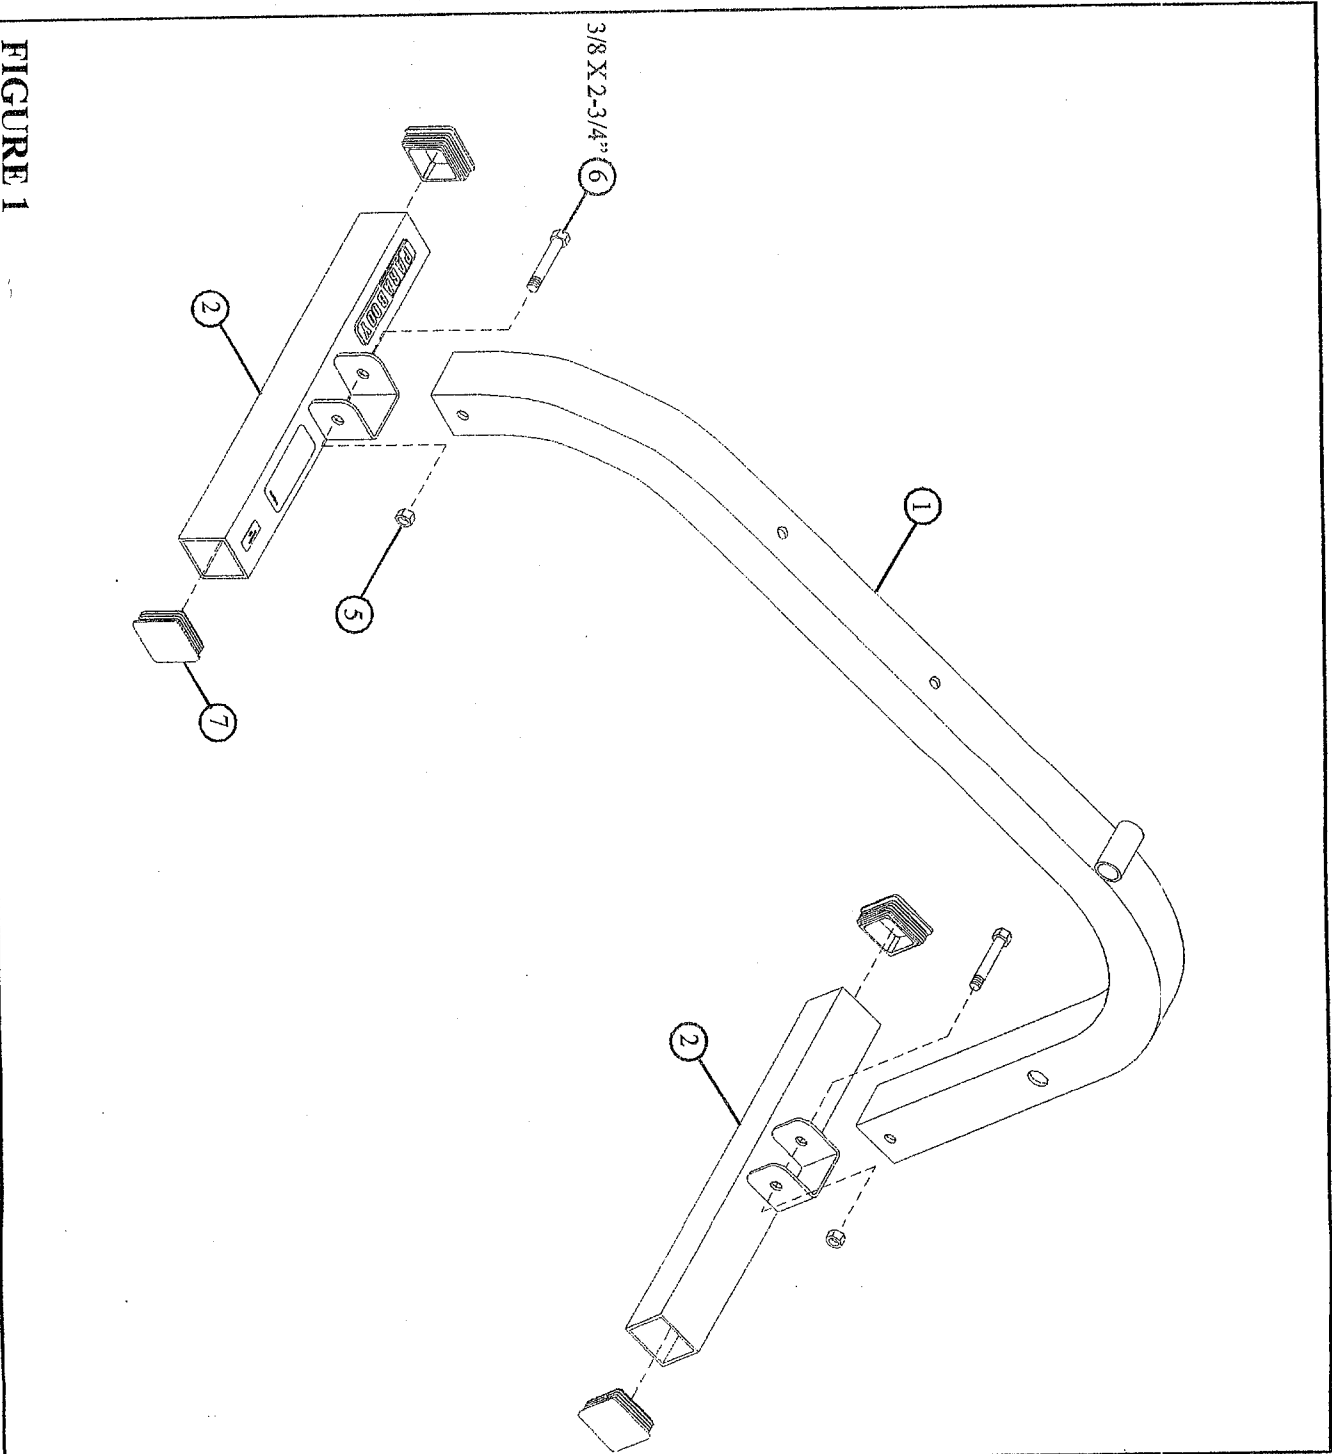

FIGURE 1
- Insert four 2" SQ. END CAPS (7) into the ends of the two TUBES (2) as shown in FIGURE 1.
- SECURELY assemble the two TUBES (2) to the BENCHFRAME (1) using four 3/8 X 2-3/4" BOLTS (6) and two 3/8" LOCK NUTS (5). See FIGURE 1.